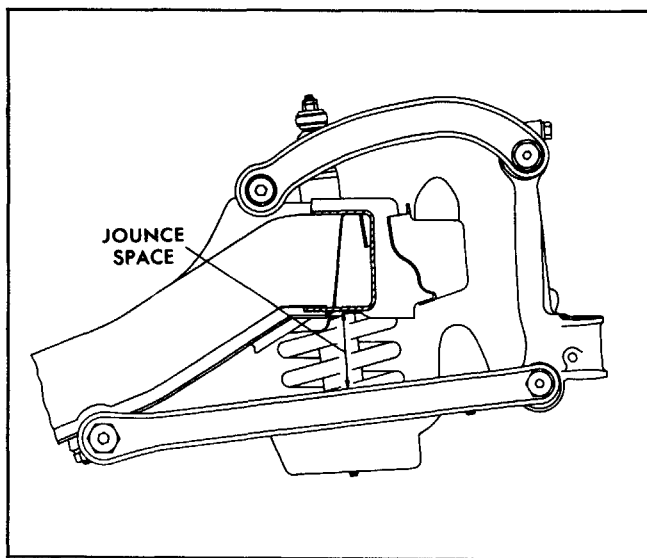

Fig. 3-7 Jounce Space Measurement
8. See that car sets level by measuring vertical distance from top of lower control arm to underside of frame at a point directly in line with shock absorber, as shown in Fig. 3-7. This is commonly called front end "jounce" space.